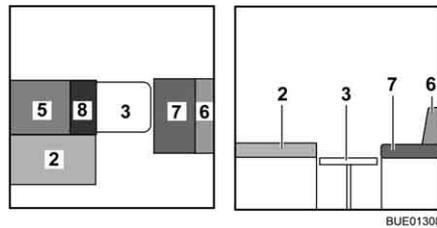

Fig. 141 During conversion
- Place the additional cushion (Fig. 141,8) on the table.